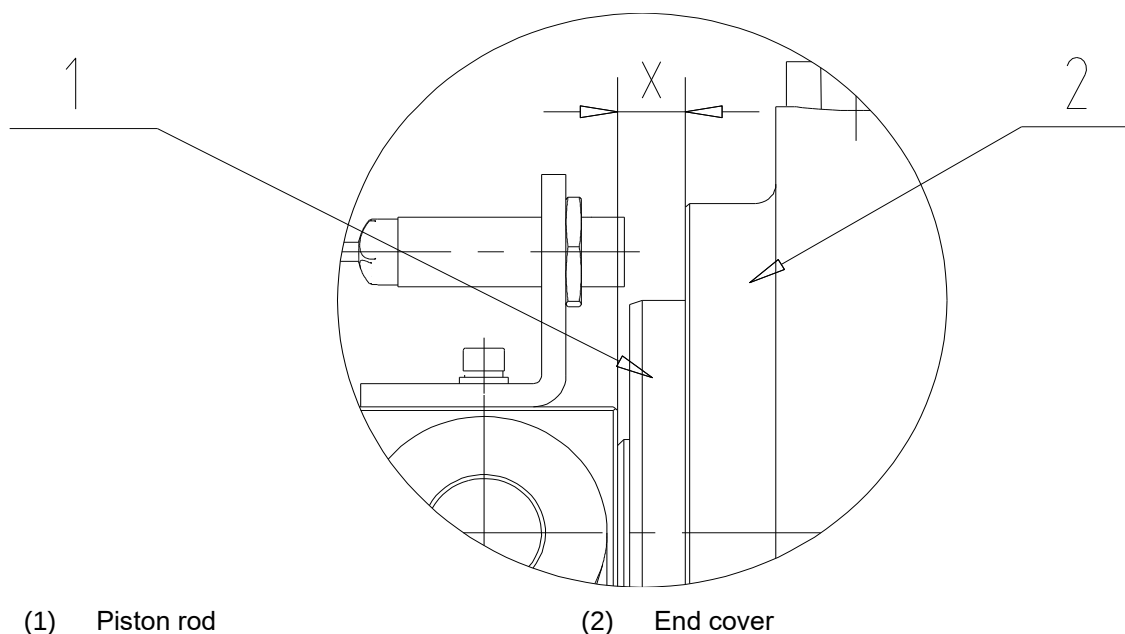

Fig. 6-15 Adjustment of shoe backing
- (1) Adjustment of shoe backing and clamping force: the size of brake shoe backing (the gap between the brake gaskets and the surface of the brake disk in the released state) will directly affect the size of brake clamping force, which must be adjusted to the specified rated value before use. There is a one-to-one correspondence between the shoe backing, the X value and the clamping force. First, observe whether the dimension X of the brake in the closed state meets the provisions of Table 8-11. If not, please adjust it according to the following methods, and first open the brake (at any time, there are two methods to open the brake).
- ① Power on the hydraulic station to supply pressure oil to open brake;
- ② Operate the manual hydraulic pump (in the hydraulic station) to open the brake (please refer to the instructions of the supporting hydraulic station for relevant instructions); When rotating the adjusting nut in the direction of the brake jib (see Fig. 6-15), X value (setback) decreases, the clamping force increases; otherwise, X value (setback) increases, the clamping force decreases (see Table 6-12 for the rated clamping force of the brake). Close the brake once and observe the X value. If it does not meet the requirements, open the brake again for adjustment. Repeat this process until it meets the requirements. Tighten the lock nut after adjustment.